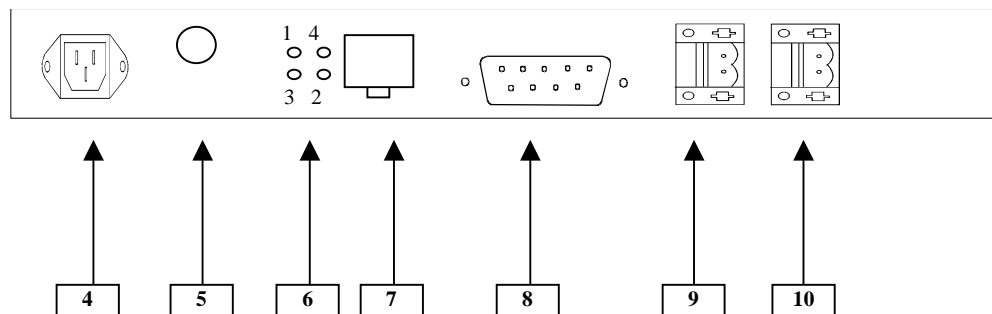

Figure 81: Time source LEDI – rear panel
The LEDI Network Time Source rear panel includes (See Figure 81) :
- To switch ON the Time Source LEDI, plug the power supply cable on the rear panel of the unit (See Figure 81: Time source LEDI – rear panel).
- To switch OFF the Time Source LEDI, unplug the power supply cable on the rear panel of the unit (See Figure 81: Time source LEDI – rear panel).
- ☞ Refer to Figure 81: Time source LEDI – rear panel.